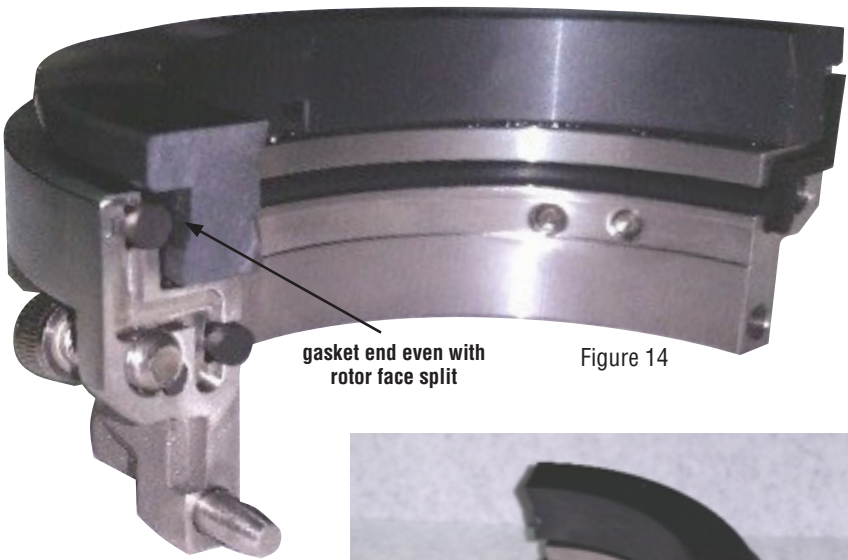

Figure 14
- 6.5 Slide the rotor face radially inward within the seal drive until the drive pin sits flush against the end of the rotor face drive pin slot. Ensure the rotor face gasket ends do not protrude past the rotor face split joint ends (adjust gasket ends as necessary). See Figure 14.